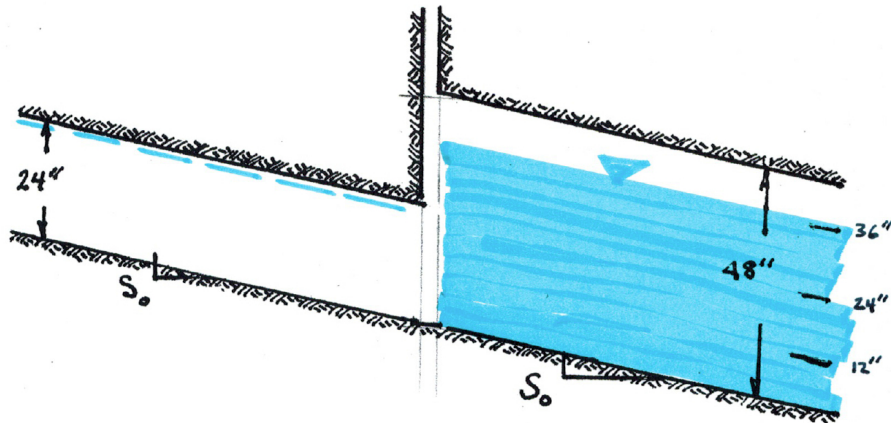

Figure 6: Sewer pipes connected at a junction box. Matching flow line elevations.
9. Figure 6 is a sketch of a 24 inch line with Manning's n of 0.015, laid on a slope of 0.01, connecting to a 48 inch line (also at 0.01) at a junction box. The soffit(crown) elevations match at the junction box. The downstream boundary conditions cause the flow depth in the 48 line to be 36 inches deep.